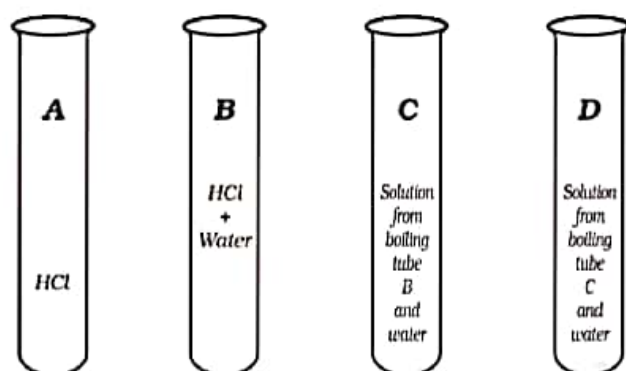

Fig. 5.1 : Set up for experiment 5.2
- Take four boiling tubes and mark them as A, B, C and D. (Fig. 5.1).